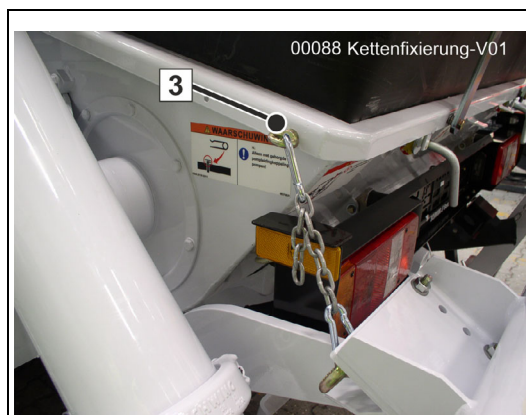

Fig. 162 Chain fastener
- Secure the underride protection using the chain fastener on the left-hand side of the hopper (3) (**Fig. 162**).